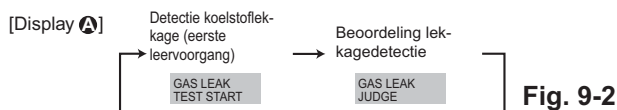

Fig. 9-2
- ② Druk op **CLOCK** en selecteer [GAS LEAK TEST START] (GASLEK-KAGE TEST START). (Fig. 9-2)